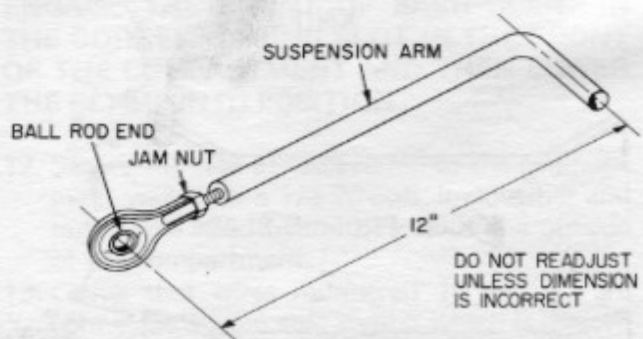

Figure 37
3. Insert all four suspension arms "A" in their respective frame bushings so their lower ball rod ends lay on the mower deck near their mounting pins. Do not readjust suspension arms. These are factory adjusted as shown in Fig. 37.